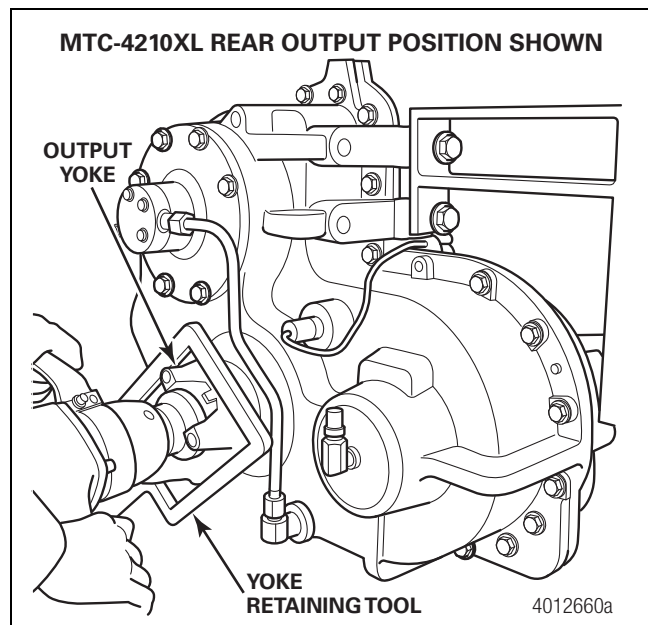

Figure 3
3. Use a yoke retaining tool to prevent the yoke from turning. Remove the output yoke locknut and washer from the output shaft. Discard the output shaft locknut. Figure 3.